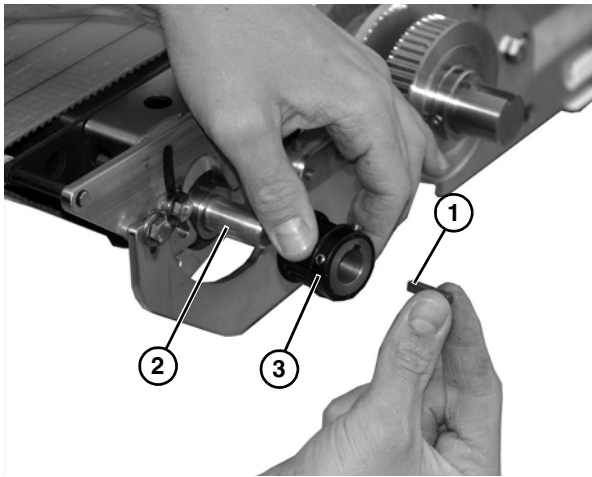

Figure 15
12. Install key (Figure 15, item 1) onto power transfer assembly shaft (Figure 15, item 2).
13. Install driven pulley (Figure 15, item 3) onto end of power transfer assembly shaft.